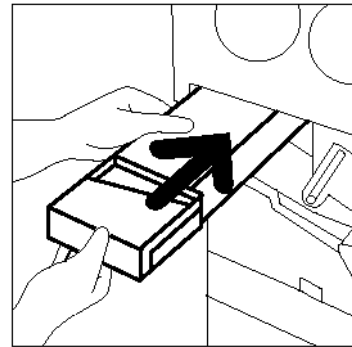

Figure 17: Inserting the new Dry Ink Waste Container
- 7 Align the new Dry Ink Waste Container with the arrow on the copier/printer, and slide the Dry Ink Waste Container into the copier/printer, as illustrated in Figure 17.